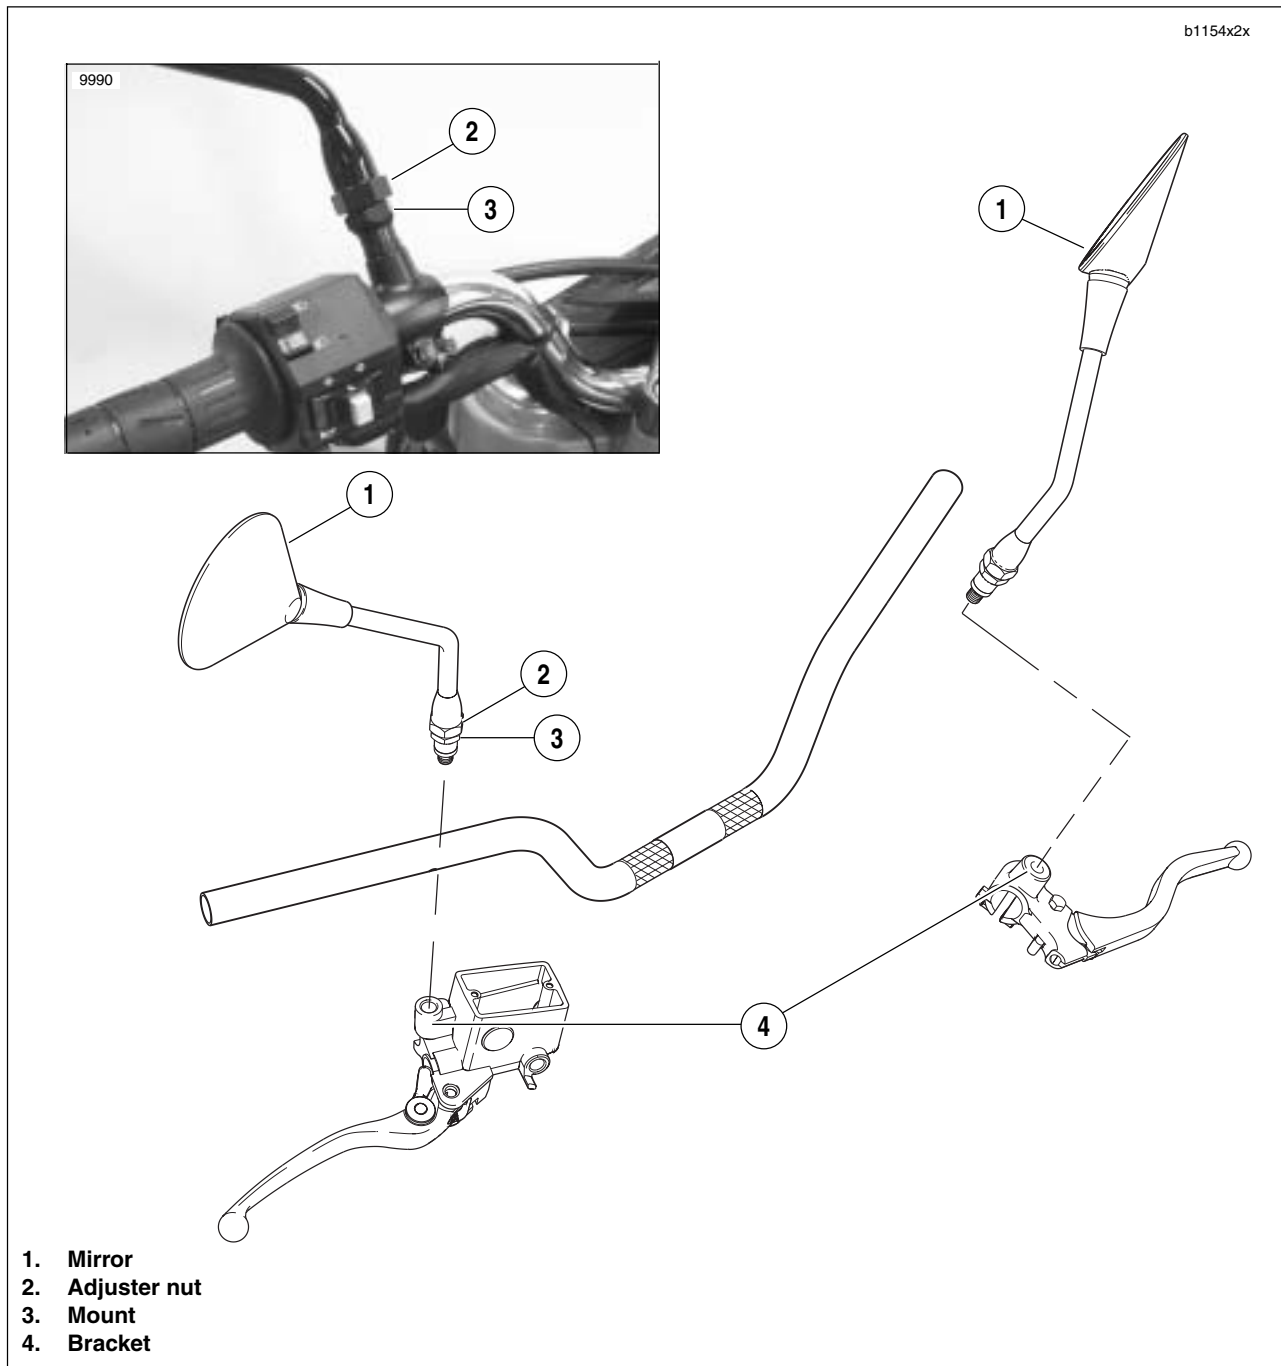

Figure 2-101. Mirrors and Mounting Hardware
1. See Figure 2-101. Loosen adjuster nut (2) and remove mirror (1) from mount (3).
2. Loosen mount (3) and remove from bracket (4).